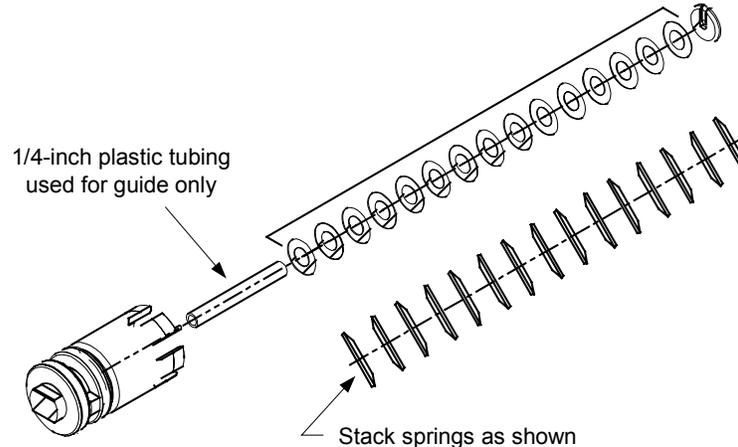

Figure 2. STACKING THE BELLEVILLE SPRINGS
3. Lightly lubricate O-Ring (17), sleeve threads (2), and internal threads and bore of the body (2) with High Vacuum Grease.
4. Install the O-ring (17) onto the sleeve (20).
5. Screw the sleeve (20) into the body (2) until the back of the sleeve (20) is flush with the ears on the back of the body (2), then back the sleeve (20) out 1-1/2 turns.
6. Lightly lubricate the O-ring (16) and the threads of the piston rod (18).
7. Install the O-ring (16) onto the piston rod (18). Do not allow grease to enter the small hole through the center of the piston.
8. Insert the stem assembly (12) into the rear of the piston rod (18).
9. Screw the piston rod (18) into the piston (21) and tighten to 27-30 in-lb. Do not overtighten or bend the rod or stem! Do not allow grease to contact the stem.
10. Lightly lubricate the two O-rings (19).
11. Install the O-rings (19) onto the body (2) and the piston (21).
12. Insert the piston (21) and the rod assembly (18) into the sleeve (20). Be careful not to cut the O-ring. Fully insert the piston (21) until it contacts the stops.
13. Stack the 15 Belleville springs (15) (see Figure 2) onto the 1/4-inch thin wall plastic tubing.